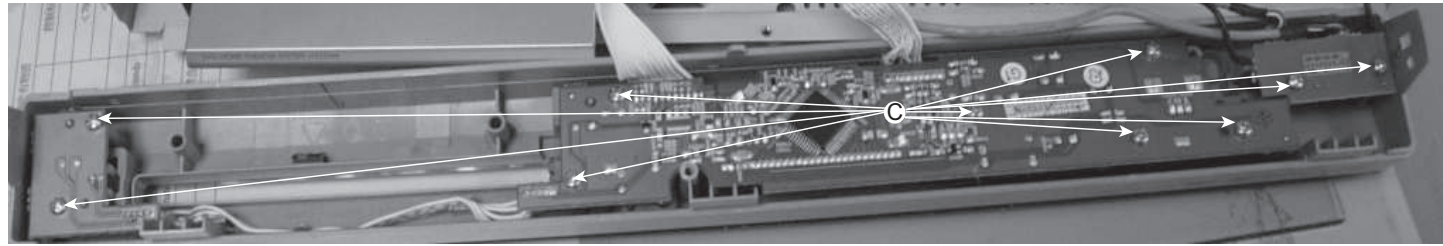

Figure 6
- 1) Loosen 10 screws "C" on the top of control board as shown in figure 6